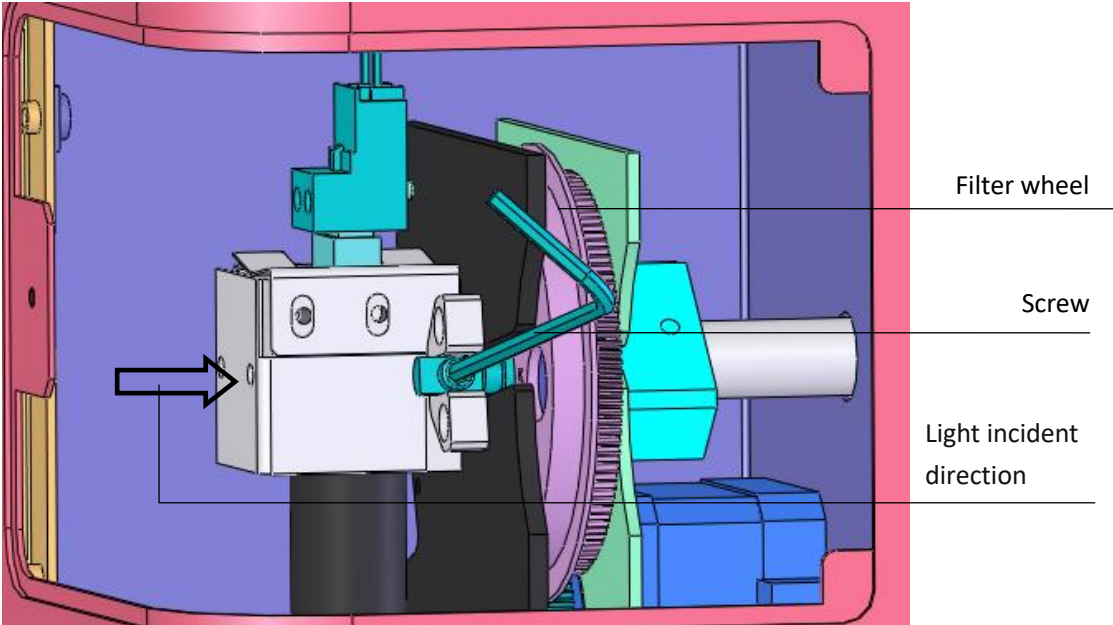

Fig 56
- Loosen the knob to open the back door and remove the optical filter wheel using the included Allen key, (see Fig 56).